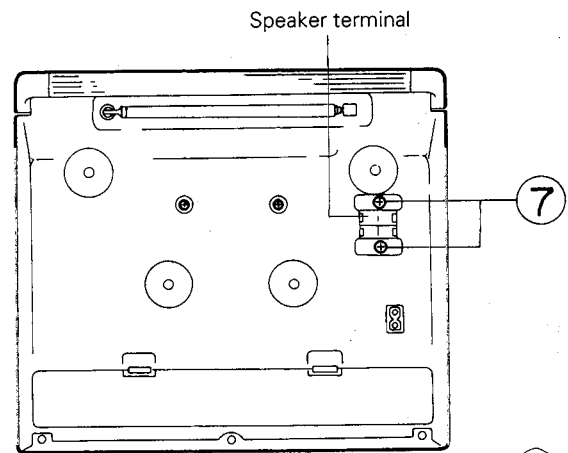

Fig. 5-10
■ **Main board and Power transformer** (Refer to Fig. 5-10 to 5-14)
6. Remove two screws ⑦ retaining the speaker terminal to remove it.
7. Remove two screws ⑧ retaining the mechanism bracket on the left side.
8. Remove one screw ⑨ retaining the main board from the front of the rear cabinet.
10. Remove the two screws ⑩ retaining the mecha. holder B.